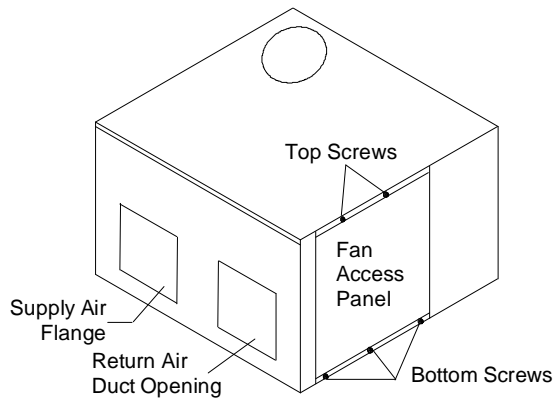

**Figure 10: Installing Terminal Block**
- Place the terminal block in the open area as shown in Figure 10 at the predrilled holes and secure using two screws provided with the terminal block.